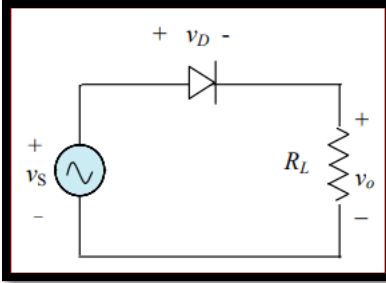

Fig. 1: Half-wave rectifier circuit.
The easiest rectifier to understand is the half wave rectifier. A simple Half Wave Rectifier is nothing more than a single PN junction diode connected in series to the load resistor as shown in Figure 1.
- 1- Configure the half-wave rectifier circuit as shown in Figure 1 and apply an AC voltage of $V_{pp} = 10V$.